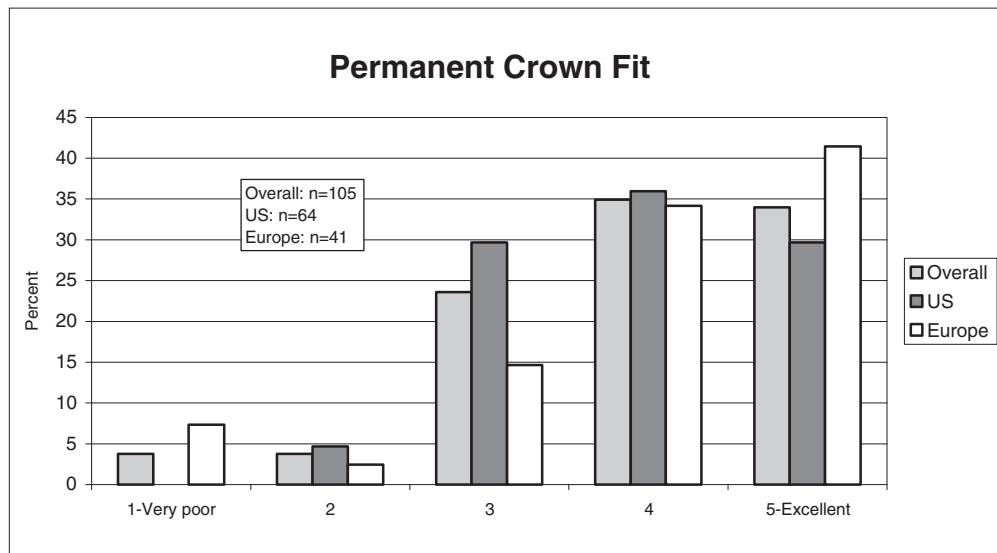

Figure 19. Permanent Crown Fit
The fit of the permanent crown is one indication of the effectiveness of a temporary material and its ability to maintain space and to protect the preparation. During the application test, dentists rated on a scale of Very Poor (1) to Excellent (5), the permanent crown fit after using Protemp Crown as the temporary restoration. The permanent crown fit following a Protemp Crown temporary was rated very good to excellent by the evaluators as shown in Figure 19. (See Figure 19).